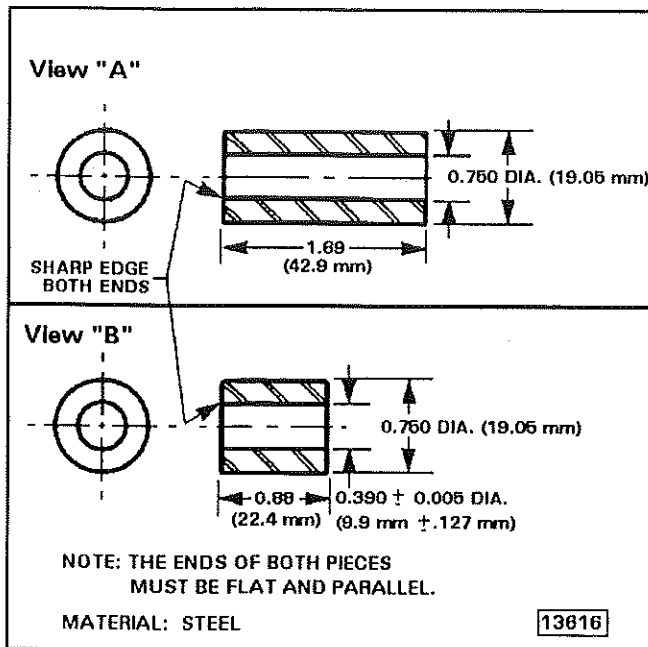
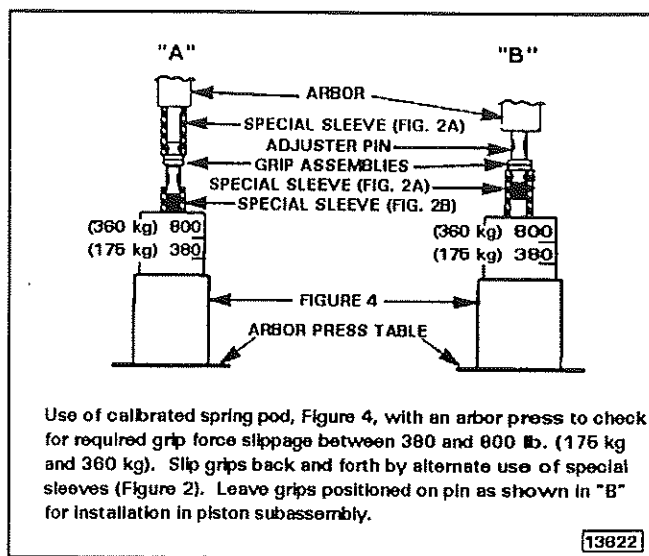

FIGURE 2 - GRIP SPACER AND INSTALLATION SLEEVES
FIGURE 8 - CHECKING GRIP FORCE
2. Install a special sleeve (Figure 2, View A) over the exposed adjuster or return pin.
1. Remove the O-ring (4) and return pin washer (5) from the adjuster or return pin (6).
2. Remove retaining ring (9).
4. Place the special sleeve (Figure 2, View A), or equivalent, over the return pin (6).
5. Lower the arbor and compress the return spring (10) to its minimum height and hold.
6. Back out the threaded retaining ring (9). With compression relieved, the ring can usually be unscrewed by hand. If the threads are burred at the slots, it may be necessary to use a spanner wrench.
7. Slowly raise the arbor until all compression of piston return spring (10) is relieved.
To make grip force measurements of grip subassemblies installed on the adjuster or return pin (6), it is necessary to have available either a force-calibrated hydraulic shop press, or a calibrated spring pod for use with a standard arbor press. Make the force measurements as illustrated in Figure 8.
1. Place the spring pod on the arbor press table. Use both of the sleeves (Figure 2) and as shown in Figure 8 to slip the adjuster grips back and forth several times
a. Use the sleeve in Figure 2, View A and the arbor press to slip both grips off the return pin.